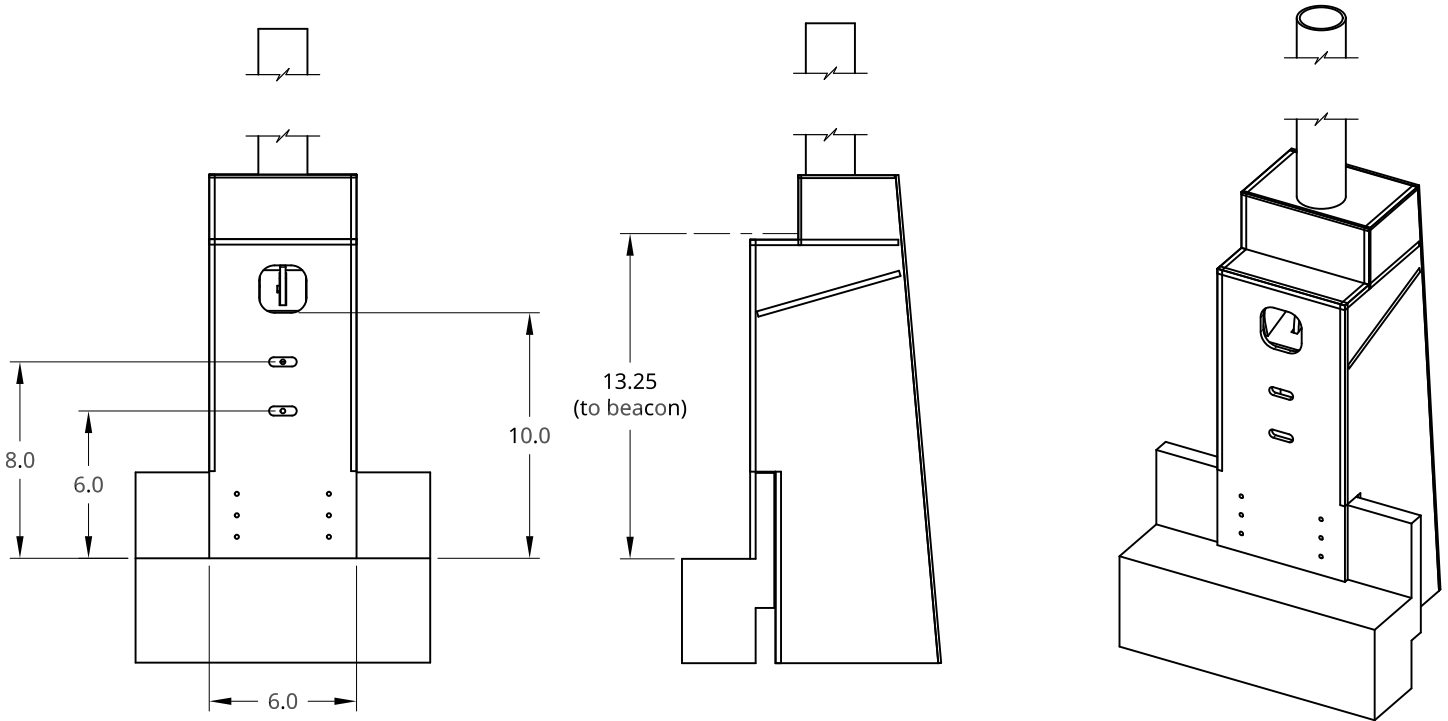

Figure 3: The reload station.
- Figure 3 shows dimensioned and isometric views of a reload station.